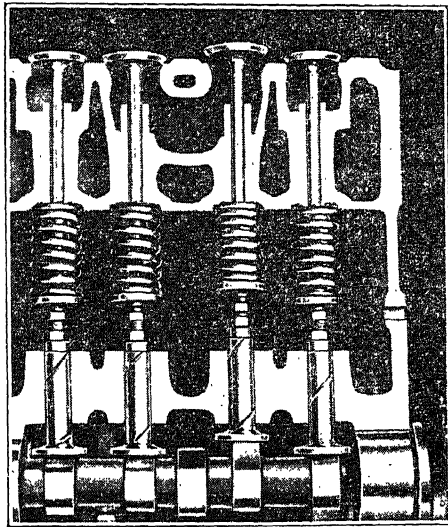

Fig. 1. 1937 Oldsmobile Valve Action
**Camshafts.** For the actuation of the valve mechanism of any four-cycle engine, it is necessary to have a shaft, Fig. 1, turning at one-half the speed of the crankshaft through a two-to-one gear ratio.
Fig. 1 shows four cams with four cam followers. Valve No. 2 is open having been forced up by the cam follower or lifter which rests on the nose of the cam.